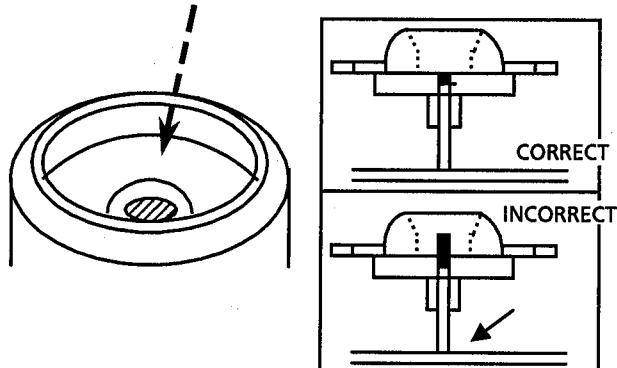

Fig. 53
(34) After inserting the turntable , bond the motor shaft and turntable together (at the section marked by an arrow in fig 53 on the left below).
Be extremely careful not to allow bonding agent to adhere to the motor bearing (the section marked by an arrow in fig. 53 on the right).